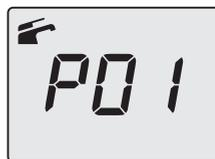

Fig. 8.33
- Press the keys 13 and 15 simultaneously (Fig. 8.30) to exit the level without changing the value (return to the previous level Fig. 8.33).